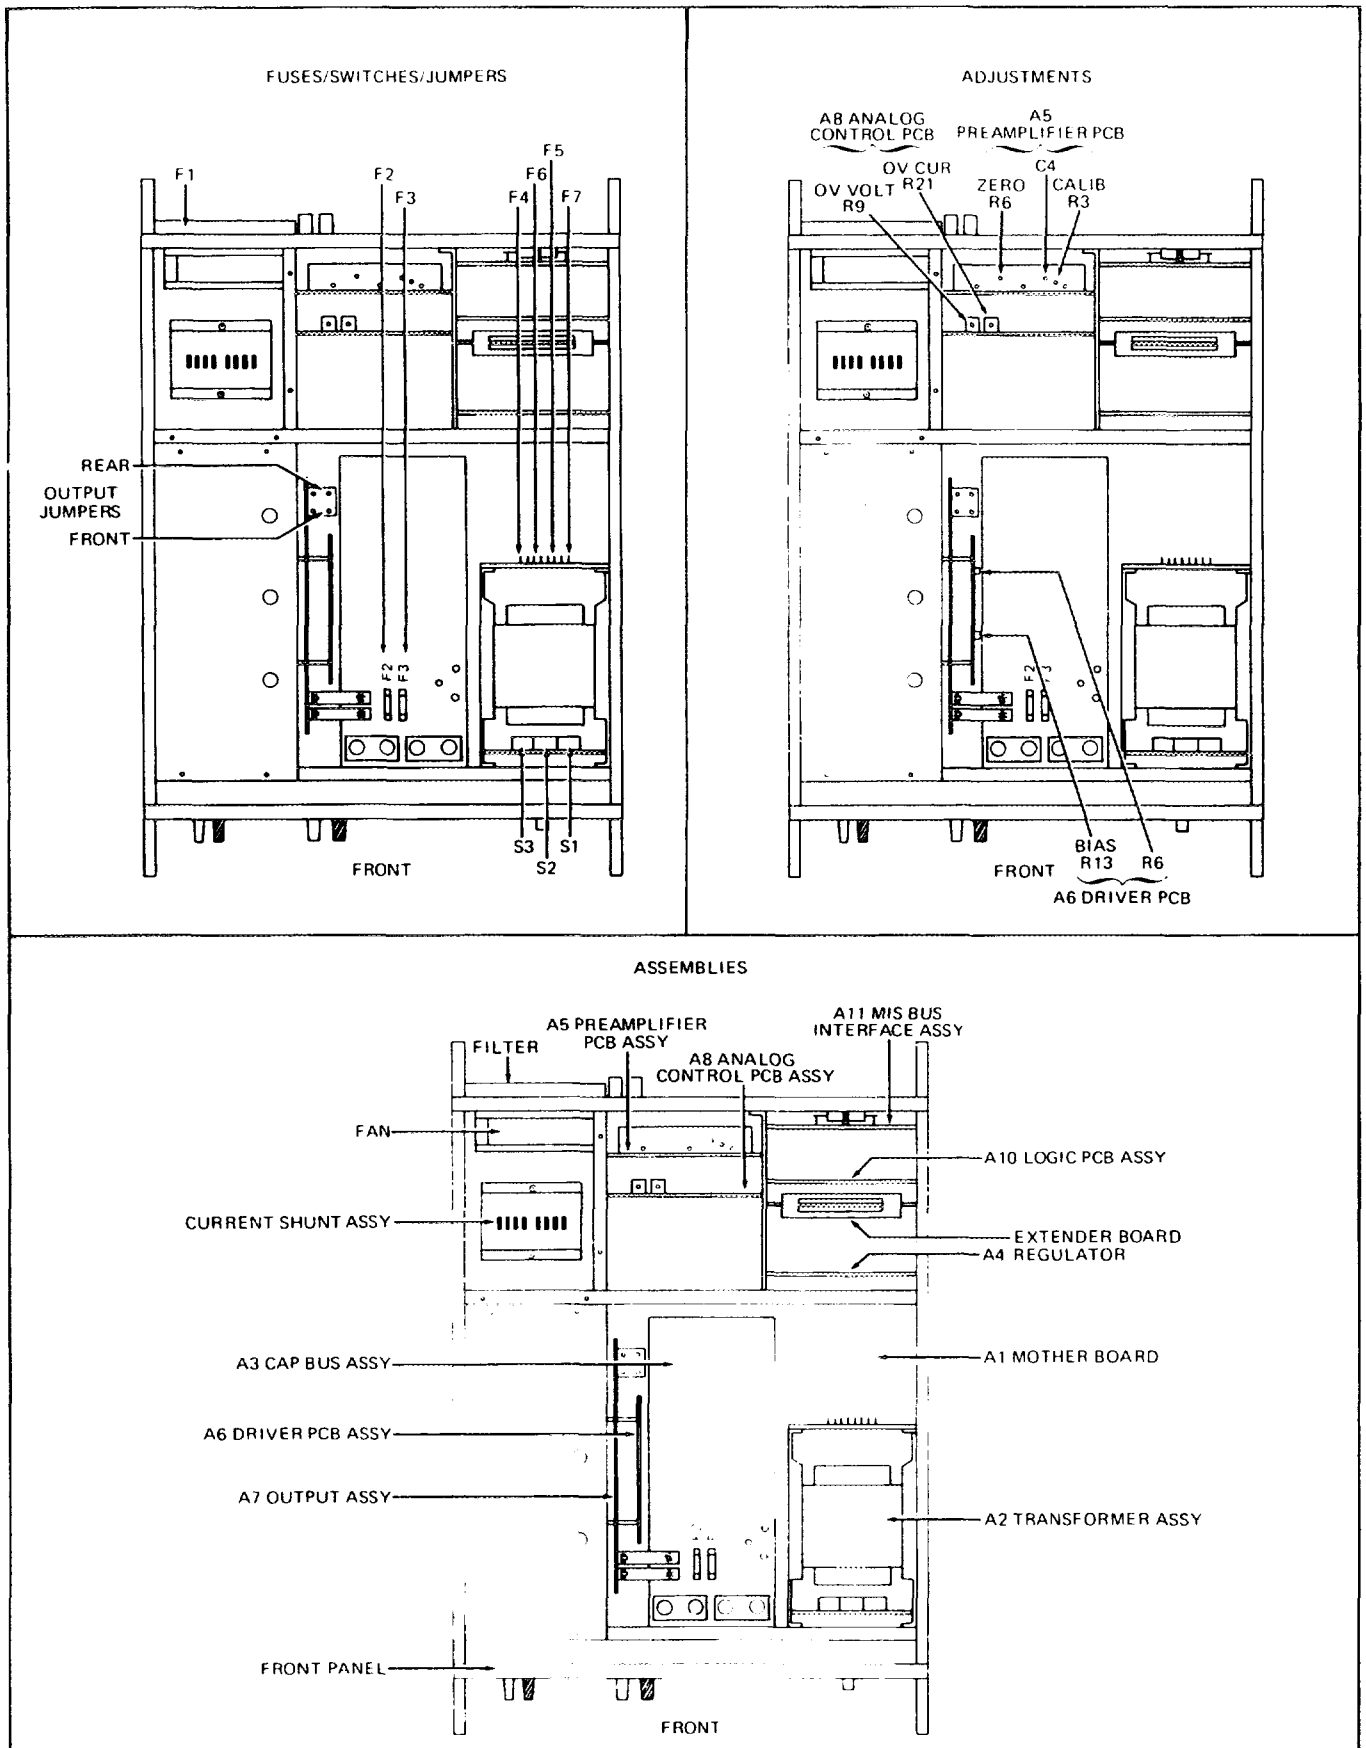

Figure 4-1. Internal Component/Assembly Locations
4-13. Reassembly of the instrument is accomplished by logically reversing the disassembly procedure. Before installing the top covers on the unit, make a visual comparison with Figure 4-1 to ensure the presence of all assemblies, jumpers, and fuses.
4-15. All internal switches, fuses, and calibration adjustments can be accessed by removing the top cover and the large inner cover from the 5220A. The location of each of the applicable components is shown in Figure 4-1. Procedures for setting, replacing, and/or adjusting these components are given later in this section of the manual.
4-32. There are six fuses located inside of the 5220A. Each is used to fuse one of the secondary windings of the power transformer. Four of the fuses are located on the A2 Transformer Assembly, and two are on the A3 Cap Bus. Their locations (F2 through F7) are shown in Figure 4-1. Use the following procedure when replacement is necessary:
3. With reference to Figure 4-1, locate and inspect fuses F2 through F7. The fuses are installed in fuse clips and can be pulled out using your fingers.
4-36. Either the front or rear output terminals (but not both simultaneously) may be selected to provide the current output connections. The active terminals are determined by the position of a pair of screws which serve as output jumpers. See Figure 4-1 for the output jumper (screw) locations. Installing the screws in the two holes marked FRONT enables the front CURRENT OUTPUT terminals. Similarly, installing the screws in the two holes marked REAR enables the rear output terminals. Use the following procedure to position the screws:
3. Locate the output jumper screws as shown in Figure 4-1.
4-38. The 5220A comes equipped with an extender board for servicing other 5220A pcb assemblies. A storage slot for the board is provided in the 5220A. See Figure 4-1 for the storage location.